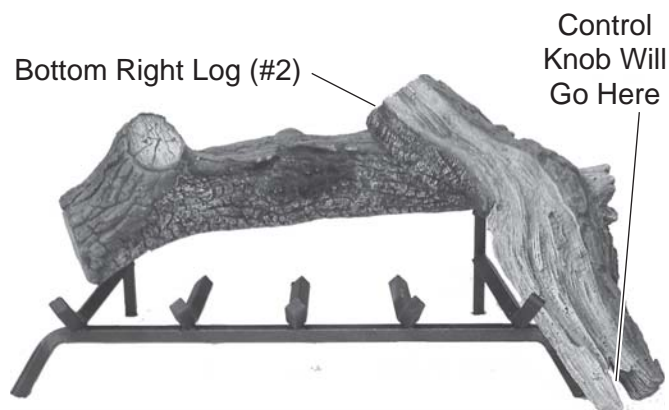

Figure 131 - Placing Bottom Right Log (#2)
3. Place Bottom Right Log #2 along outside of grate. Rest end on Rear Log #1. Control knob will stick through bottom notch of log. *See Figure 131.*